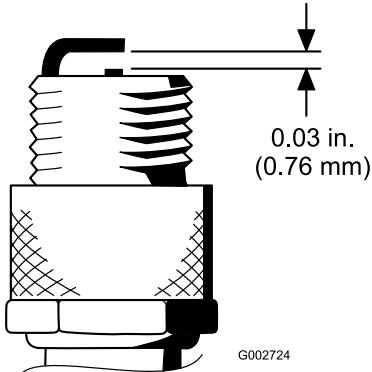

Figure 51
4. Set the air gap between the center and side of the electrodes at 0.030 in. (0.76 mm) (Figure 51).